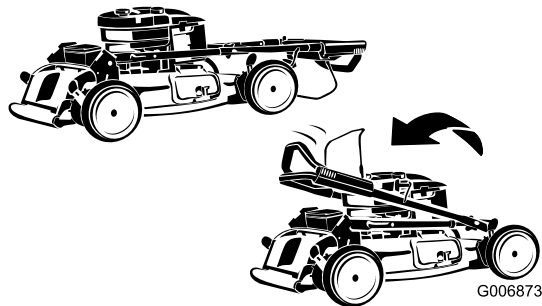

Figure 37
2. Fold the upper handle forward as shown in Figure 37.